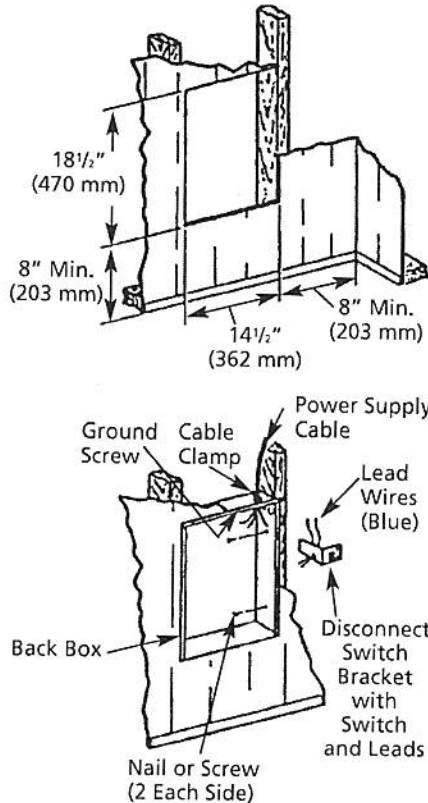

Figure 3 – Locating Recessed Back Box in Existing Construction
1. Provide a wall opening 14½" (362 mm) wide by 18½" (470 mm) high at the desired mounting height, but no closer than 8" (203 mm) (see Figure 3).